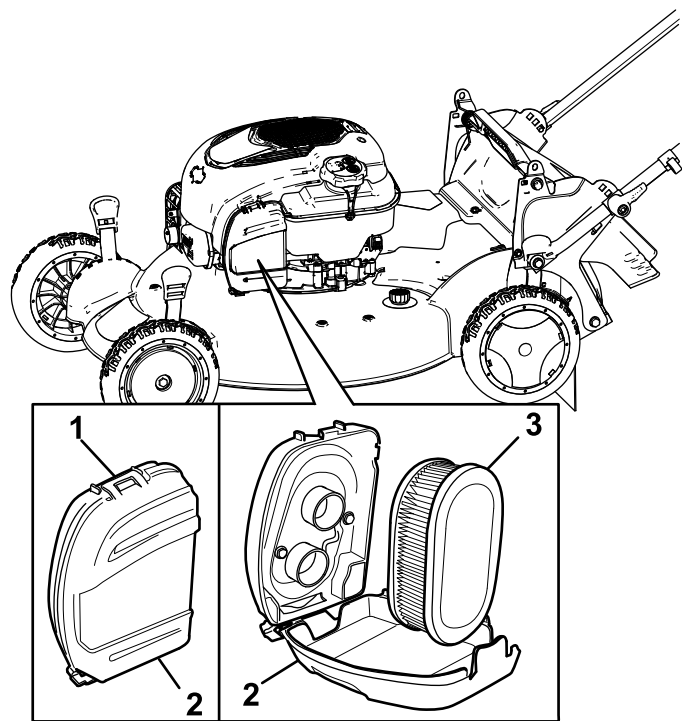

Figure 27
- 1. Use a screw driver to open the air-filter cover (Figure 27).